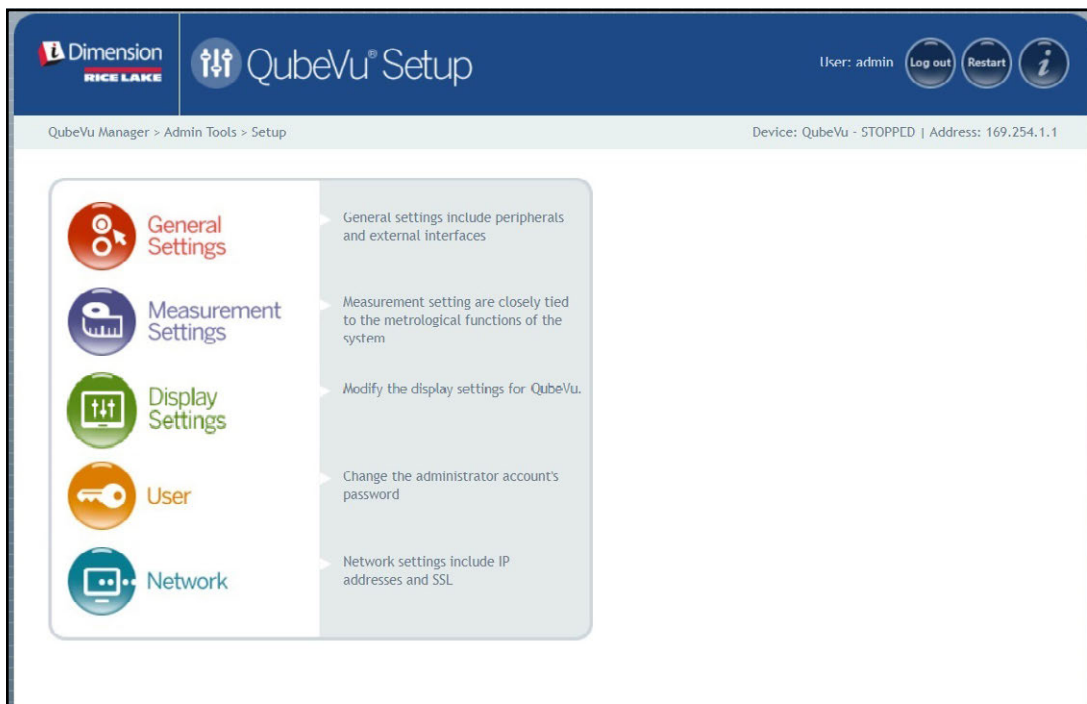

Figure 5-1. Setup Menu
- Select  **General Settings** from the **Setup** menu (Figure 5-1 on page 22). The **General Settings** menu displays.